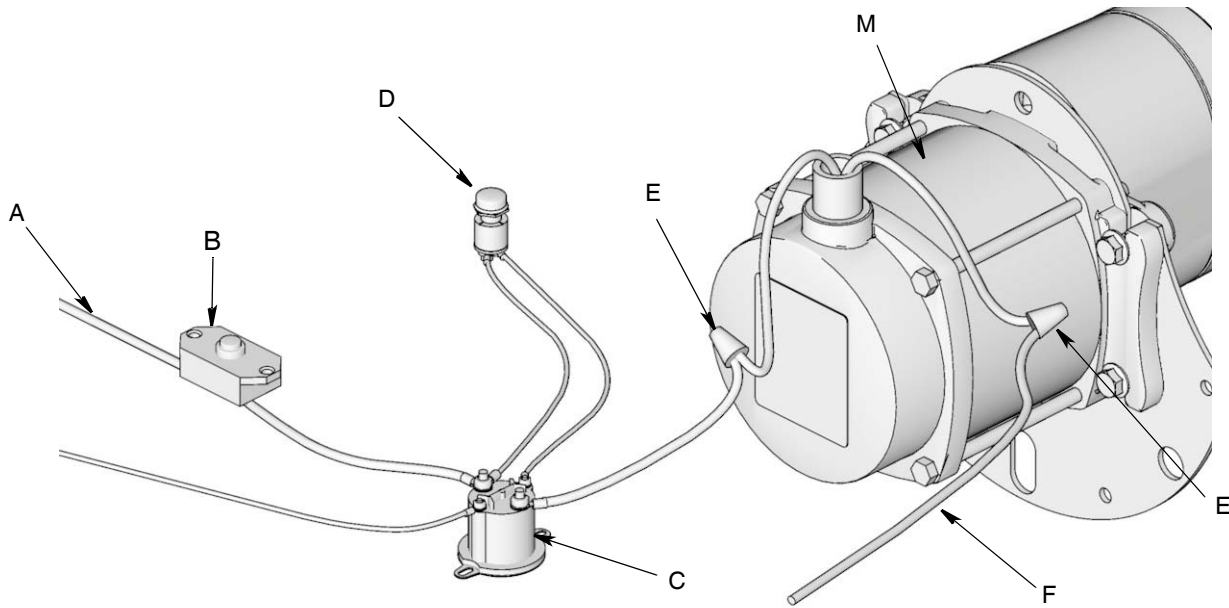
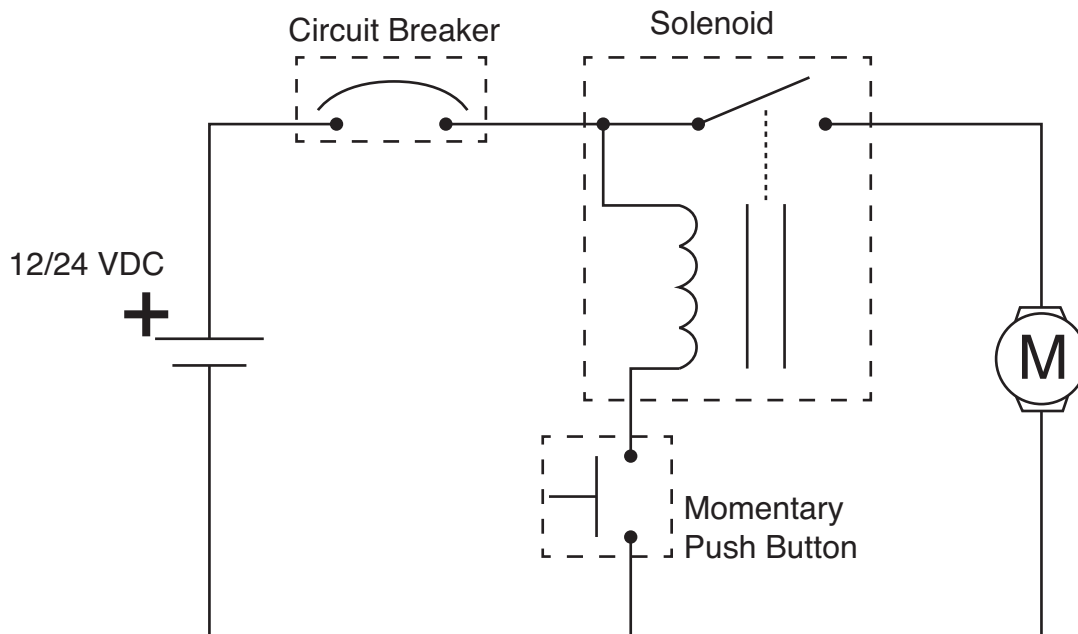

FIG. 8
FIG. 9
- Follow wiring diagram provided in FIG. 8 and Wiring Schematic provided in FIG. 9.